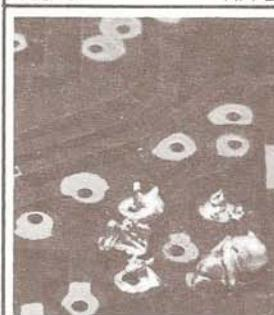

FIG. 6 INCORRECT
8. USE SUFFICIENT HEAT - The key to good soldering is to use sufficient heat and a small amount of patience. Continue to apply heat to the connection for a short time after you've stopped applying solder to the joint. Allow the solder to spread freely over the entire copper pad and form around the component lead. DO NOT paint the solder on the connection with the soldering iron's tip. If the solder forms into a round ball of rough, flaky solder, you are not applying enough heat to the connection (See Fig. 6).